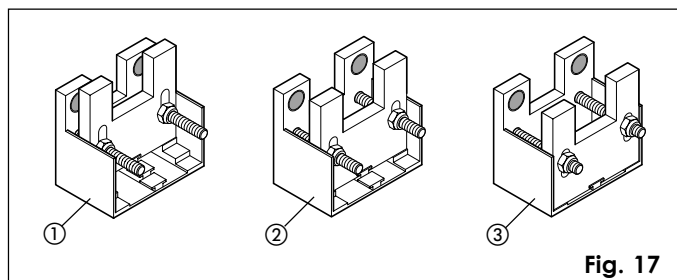

Fig. 17
- 1) Galvanised rack 30x6 module 4 (Fig. 17 ref. ①)
- 2) Galvanised rack 30x12 module 4 (Fig. 17 ref. ②)
- 3) Reinforced nylon rack 30x20 module 4 (Fig. 17 ref. ③)